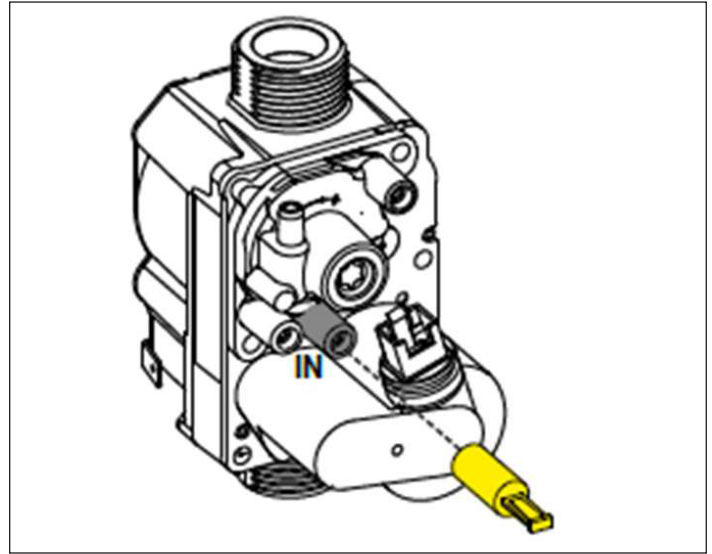

Figure 58 - Remove Yellow Cap
**NOTE:** Refer to Figures 58 and 59 when checking gas pressure. Loosen the bolts before checking the gas inlet pressure.
- Remove yellow cap from line pressure test point. See Figure 58.